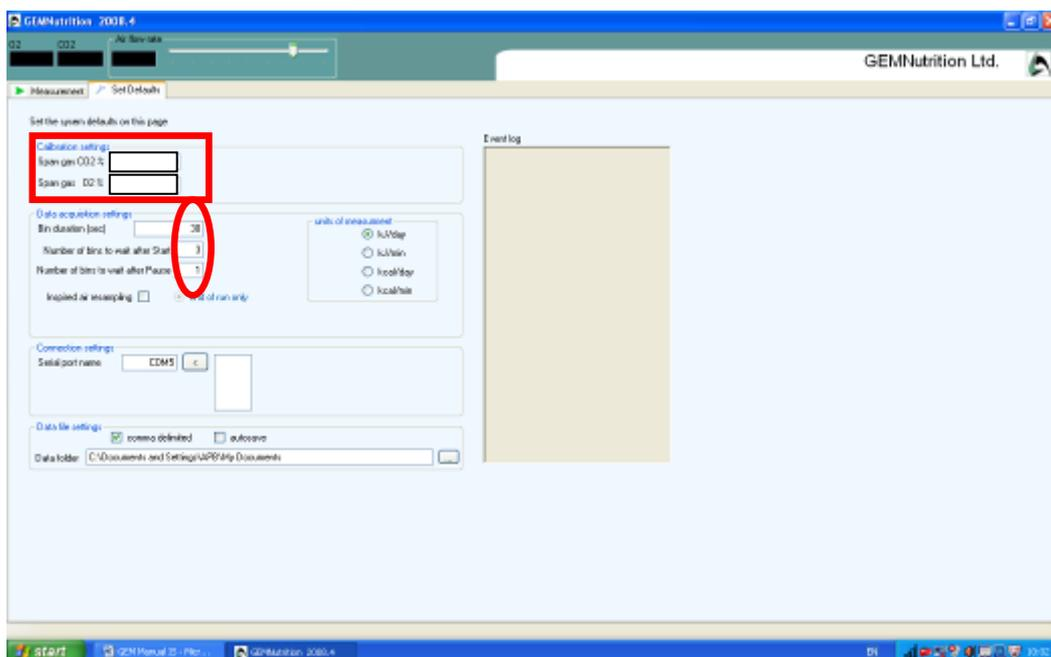

Figure 5. Set defaults tab
8. When 3 calibrations have been performed, select the “defaults” tab and check that the program is set to discard the first three measurements and that the bin size is 60 seconds, unless otherwise required by the study protocol. Make any appropriate changes but do not alter the values in the calibration settings (the values in these boxes are set according to the percentages of O₂ and CO₂ in the gas cylinders). All outlined in red in figure 5.